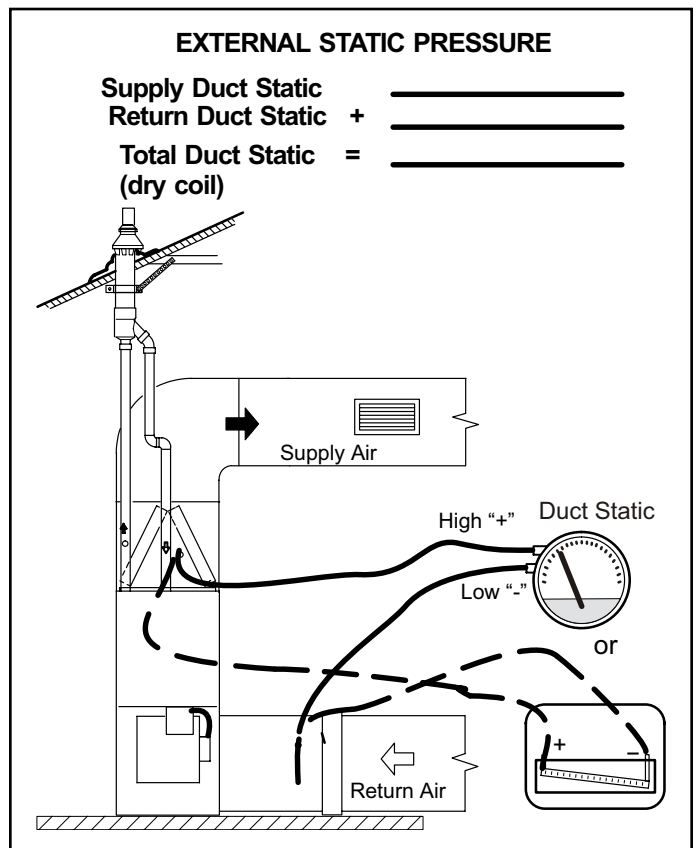

Figure 58.
- Tap locations shown in Figure 58.